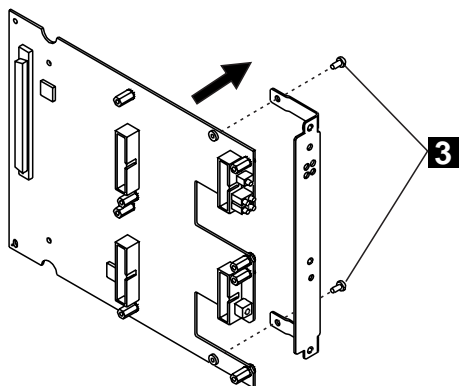

Figure 4. Removing the Dummy Faceplate Bracket
- 4 Remove the dummy faceplate bracket from the motherboard (**3** in Figure 4 on page 20), saving the screws for the new bracket. Save the dummy bracket in a safe place for future reuse.